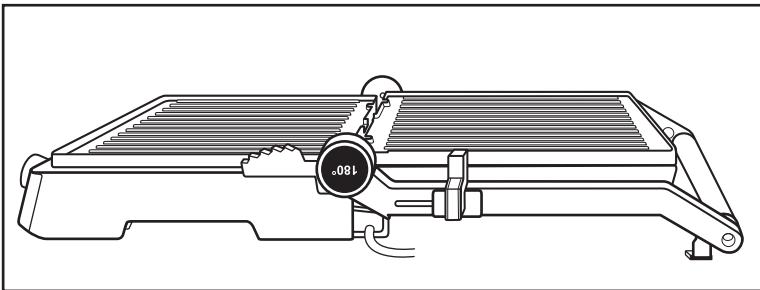

Fig. 2
- 3) The hotplates **10** are now positioned next to each other and can be used as a table grill (Fig. 2).